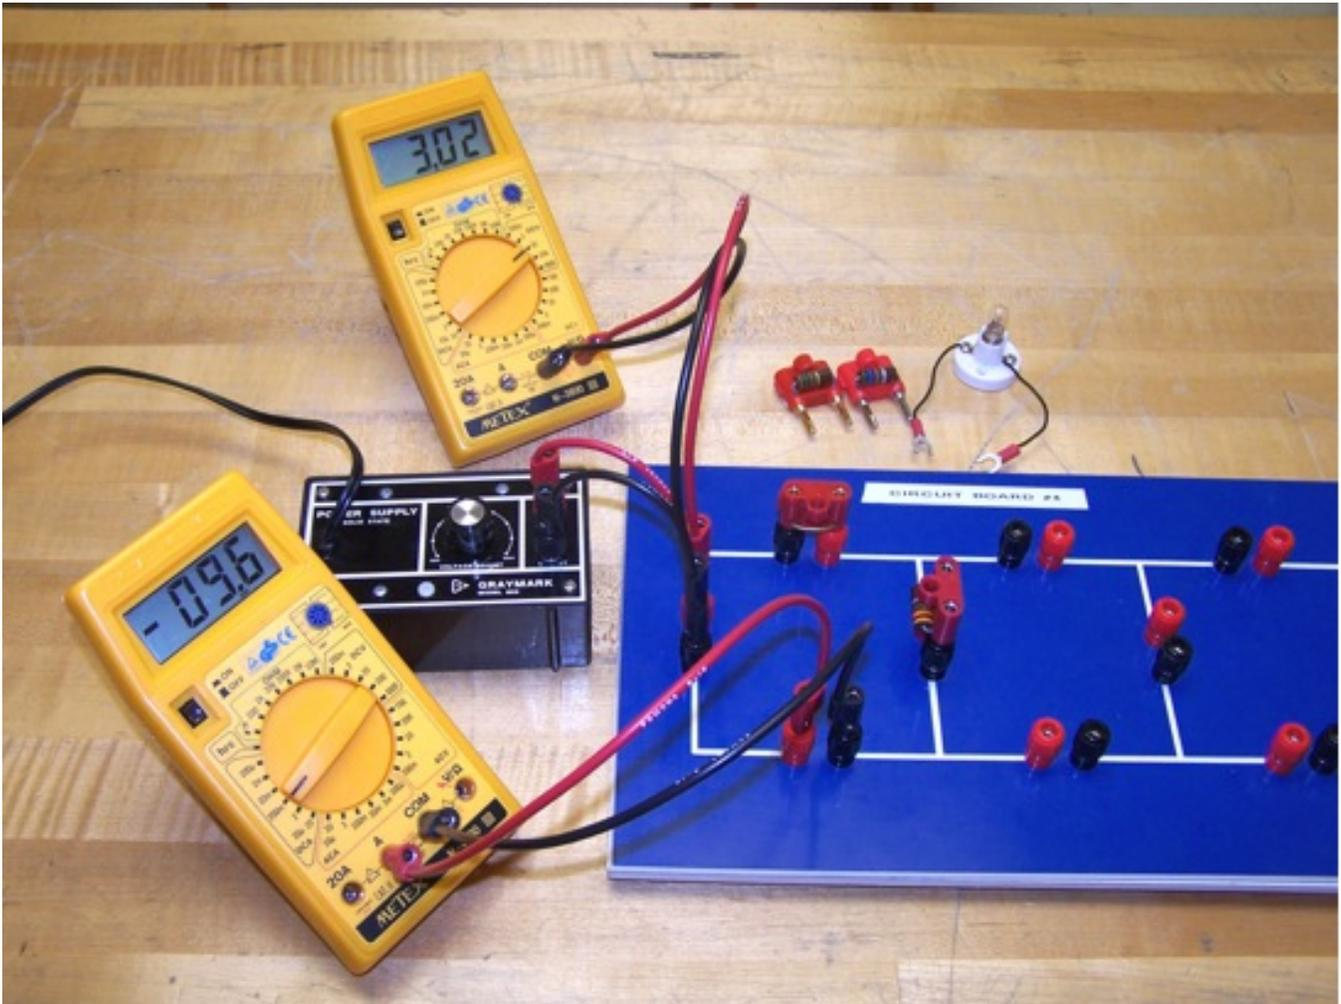

Figure 15.1: Simple Series Circuit
4. Build a simple series circuit using R_1 , an ohmmeter, an ammeter, and a jumper (This will look similar to Fig. 15.1, but without the power supply).